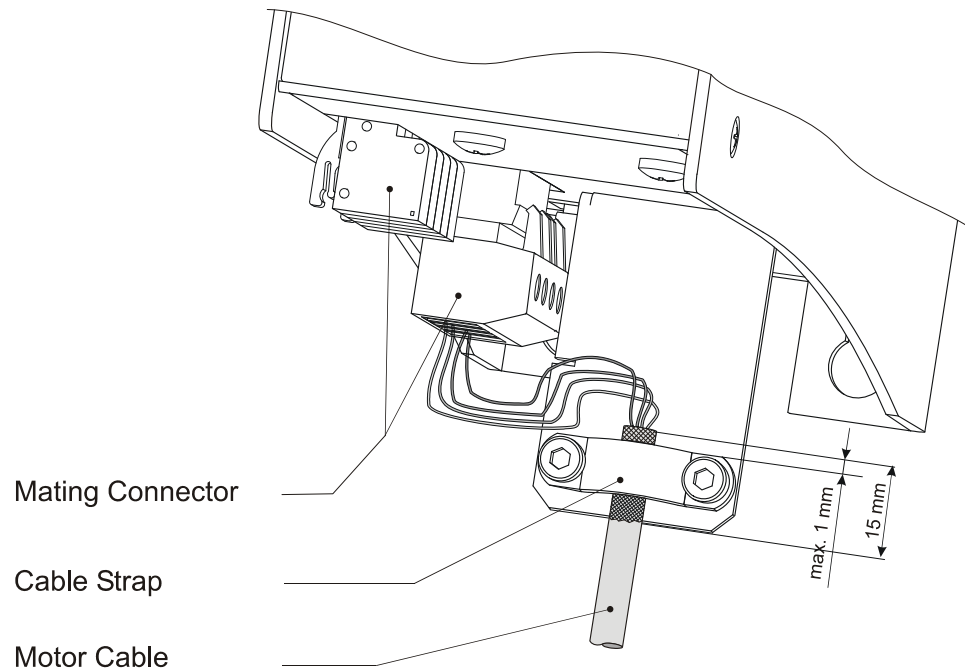

Fig. 3: EMC-compatible connection of motor cables
-  Fix the cable strap serving as strain relief and motor cable shield next to connector X62 (see fig. 3, page 23).
- Connect the motor lines according to fig. 3, page 23.